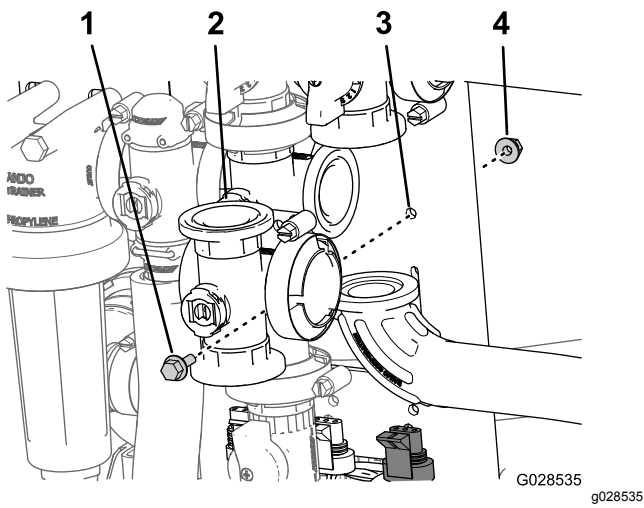

Figure 53
2. Remove the flanged-head bolt and flanged locknut that secures the master boom valve to the valve mount and remove the valve manifold from the machine (Figure 53).